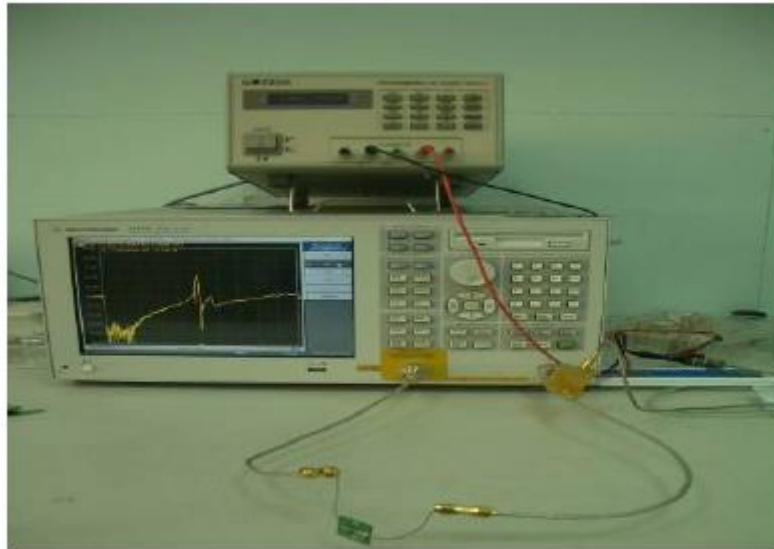

Figure 4. Network Analyzer
- a. Equipment: Network Analyzer (Agilent E5071B)(Fig.4)